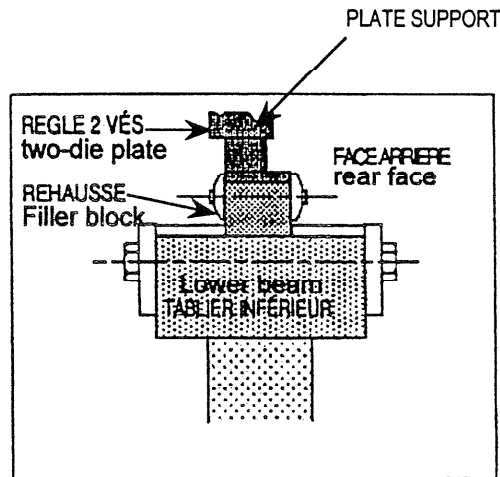

Figure 5.10
Tool Installation (Fig. 5.10 and 5.11)
- 2) Immobilise using the front brackets as shown in the diagram (Fig. 5.10).